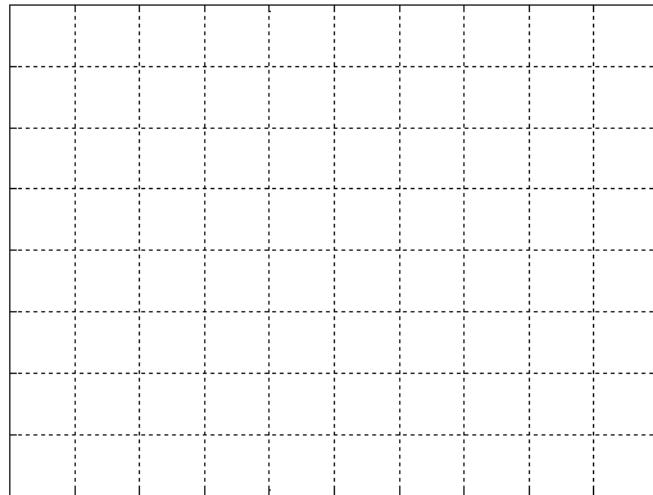

Figure 13. Graph Axis for recording the results from Experiment 2.
9. Click the Step Response Data Button, and use the axis provided in Figure 13 to sketch the 3 graphs displayed on the screen of the Step Response Results tab. (Ensure you label each of the three sketches)
Lab Q2: From your results in Table 4 and Figure 13, comment on the effects of adding increasing levels of system damping affect the system response.